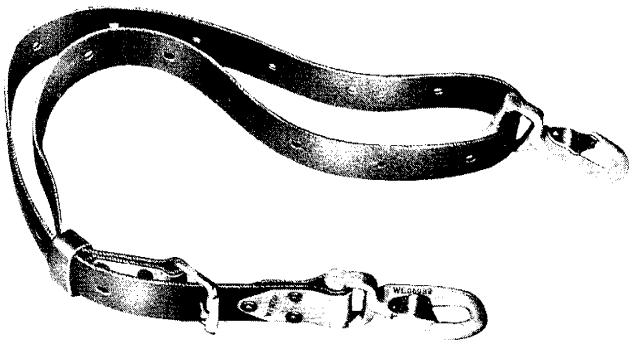

Fig. 5—D Safety Strap
**2.09** The D Strap (Fig. 5) is available in one size only. It is adjustable in length in increments of 1-1/2" from 36" to 61-1/2".